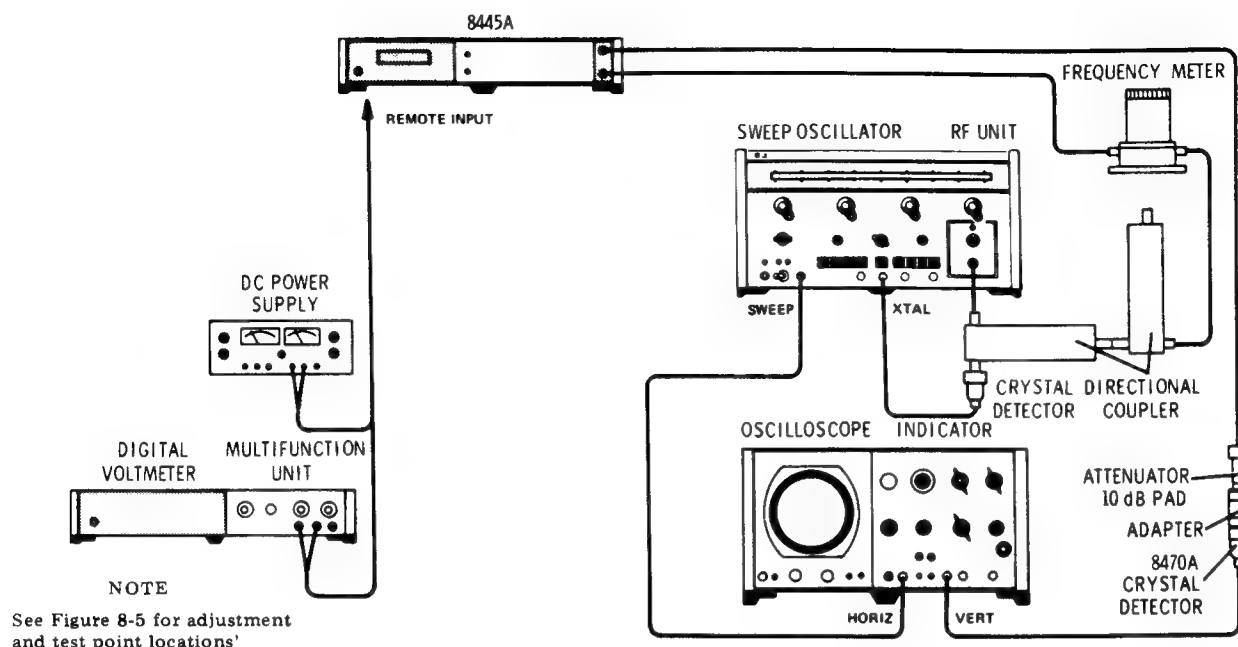

Figure 5-5. Yig Driver Check and Adjustment Test Setup (Linear Operation)
1. Connect test setup as indicated in Figure 5-5. Apply power and allow at least 30 minutes for equipment to stabilize.